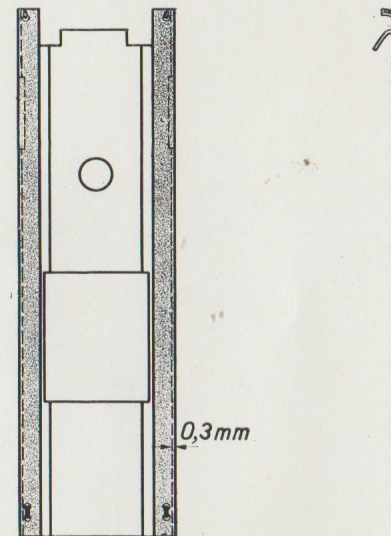

Fig. 4
- Simple finish** (fig. 4, code number 22 415 46)